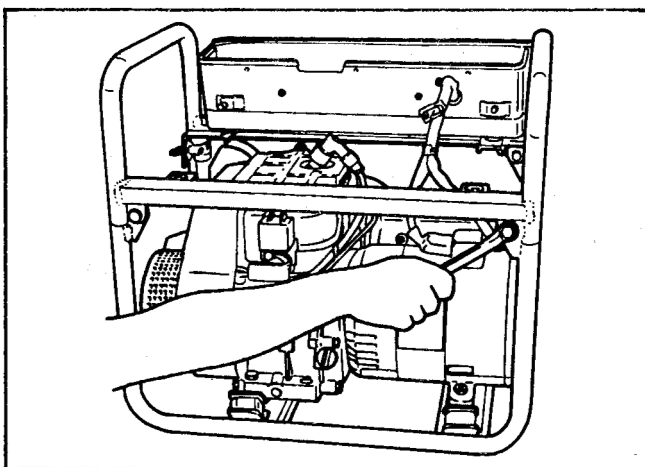

Figure 58
11. The upper tube frame may be removed to provide additional clearance. Remove the four bolts retaining the frame halves. See Figure 58.